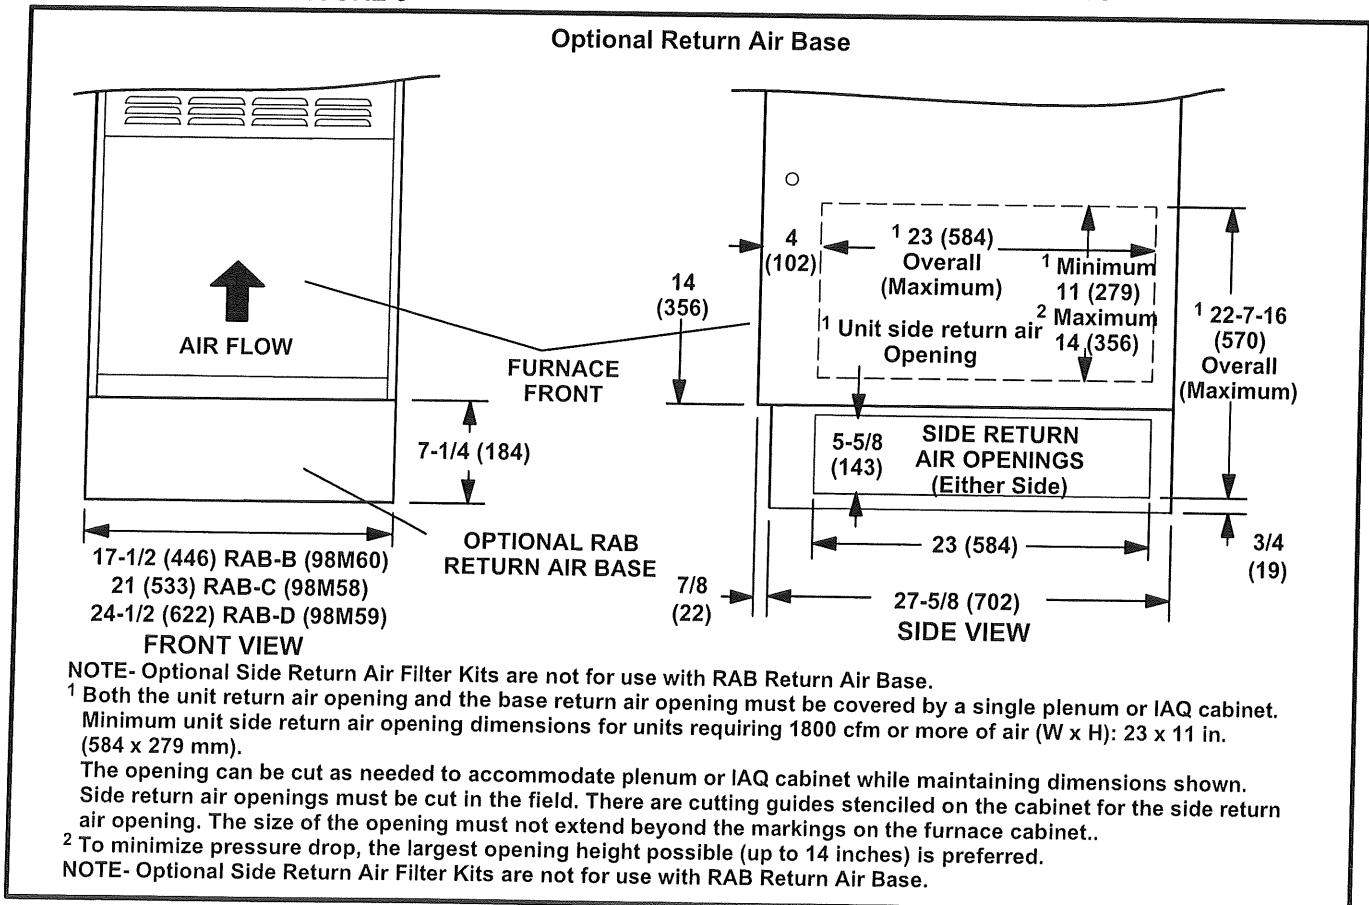

FIGURE 10
- 2 - Return air from single side with optional RAB Return Air Base. See figure 10.